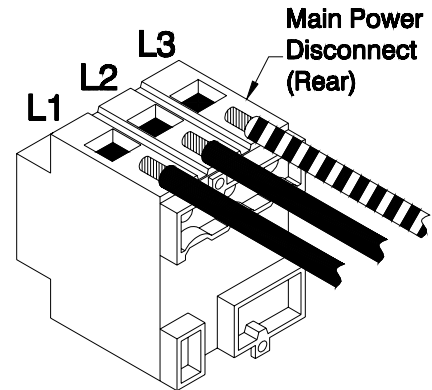
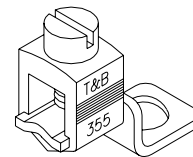

Figure 6. Main Power Connection
Figure 7. Ground Lug
The dashed lines in Figure 6 indicate the additional wire found on three-phase units.
1. Open the electrical console and connect the main power cord as follows: (See Figure 6 and Figure 7.)
- d) While observing the fan on the end of the electric motor, turn the hydraulic motor switch ON and OFF. The fan's direction of rotation must be clockwise. If not rotating clockwise, turn OFF the red main disconnect switch and disconnect and lock out the incoming power at the source. Open the electric console and switch any two of the three main power leads on the main disconnect. (See Figure 6 on page 15.) Recheck the direction of rotation and check hydraulic connections for leaks.